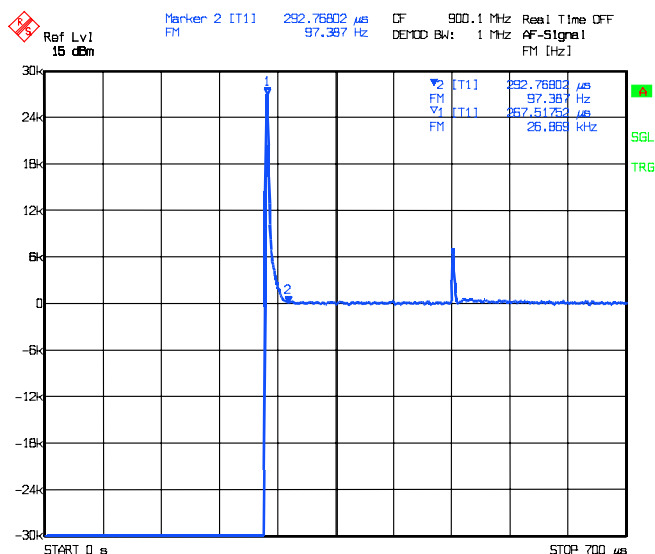

Fig. 4: Frequency transient of a 100 kHz frequency step of a signal generator
- Trigger the synthesizer under test, the FSE will display as shown in Fig. 4.